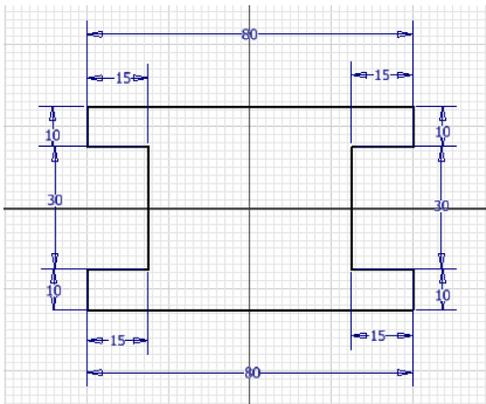

Figure 2-68 Sketch of the outer loop
- Draw the outer loop by specifying the length and angle lines by using the Dynamic Input method, refer to Figure 2-68.
17. Right-click to display the Marking Menu and choose **OK** from it to exit the **Line** tool. The sketch of the outer loop is shown in Figure 2-68. You need to arrange the positions of dimensions in the sketch by dragging them to view the sketch clearly.
The angular dimensions have not been shown in Figures 2-68 and 2-69 for clarity of sketches. You can control the display of the linear and angular dimensions of the sketch. To do so, choose **Application Options** from the **Options** panel of the **Tools** tab; the **Application Options** dialog box is displayed. In the **Sketch** tab of the **Application Options** dialog box, choose the **Settings** button; the **Constraint Settings** dialog box is displayed. Clear the **Create dimensions from input values** check box in the **Dimensions** area of the **Constraint Settings** dialog box and then choose **OK**. Next, choose the **Apply** and **Close** buttons from the **Application Options** dialog box to turn off applying dimensions automatically during sketching.